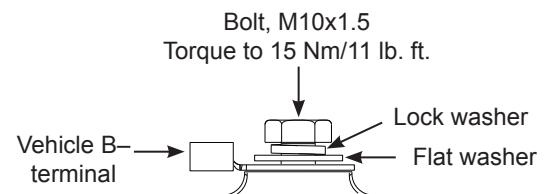

Figure 3: B- Terminal Hardware Stacking Order
6. Connect vehicle B- cable to alternator B- terminal. Install mounting hardware in stacking order shown in Figure 3. Torque hardware to 15 Nm/11 lb ft.